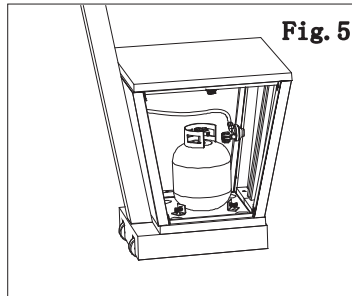

Fig. 5
2. Put the cylinder into the cylinder rack. See Fig 5.